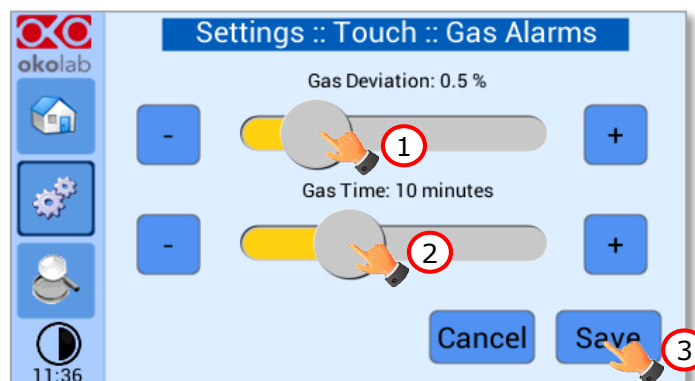

Figure 67. How to set the Deviation and Time Alarm.
2. Insert the Gas Deviation by scrolling the bar (1 in Figure 67) or pressing the +/- icons.
3. Insert the Gas Time by scrolling the bar (2 in Figure 67) or pressing the +/- icons.
4. Press Save (3 in Figure 67) to confirm.
Figure 67. In this example the following settings are displayed (valid only after the system has reached its stationary state): if the *Gas Deviation* from Setpoint is 0.5% or greater (i.e. if Setpoint gas is 5.0% and the composition reaches a value equal or less than 4.5% or equal or more than 5.5%) for a period of time equal or longer than 10 minutes (*Gas Time* set in this example) then the system triggers an Alarm.